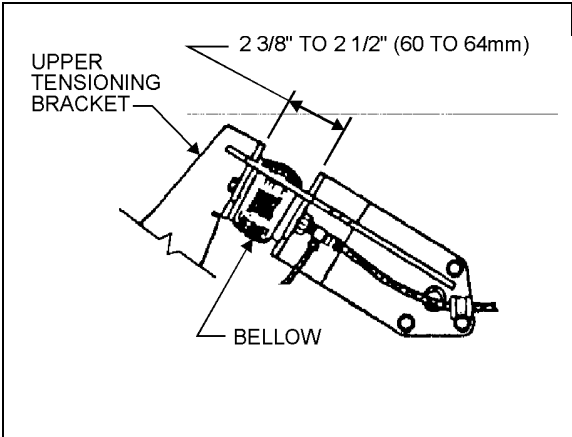

FIGURE 20: UPPER TENSIONING BRACKET 12017
**Caution:** In order for tensioning system to work properly, the distance between the inside faces of "tensioning arm to engine" bellow brackets should be between 2 3/8" (60 mm) and 2 1/2" (64 mm); if not, release tension on system and readjust distance using bolts securing upper tensioning bracket (Fig. 20).